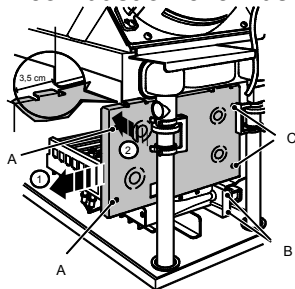
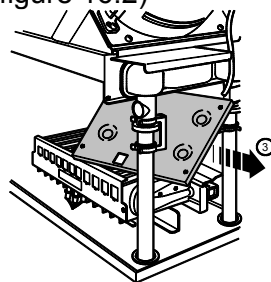

Figure 16.1
Figure 16.2
- Loosen the screws A on figure 16.1 and move to the left the side panel of the combustion chamber.
- Loosen the screws B and remove the air deflector (figure 16.1)
about 1.5 in, rotating it inside the combustion chamber (figure 16.1 follow the arrows) and then pulling it outside the combustion chamber (figure 16.2)